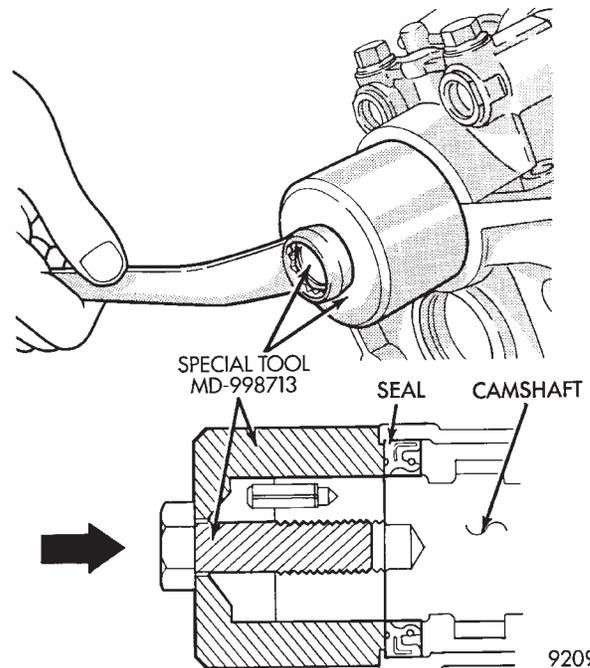

Fig. 12 Install Camshaft Oil Seal
(1) Apply light coat of engine oil to the camshaft oil seal lip.
(2) Install the oil seal using camshaft oil seal installer tool MD998713 (Fig. 12).